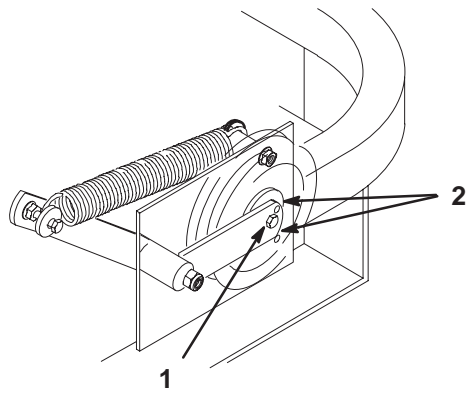

Figure 65
8. Check belt tension. The center bolt of spring loaded idler must be between the two alignment holes in left support plate (Fig 65).
10. Check belt tension again. The center bolt of spring loaded idler must be between the two alignment holes in left support plate (Fig. 65). Adjust, if necessary, and tighten all hardware securely.